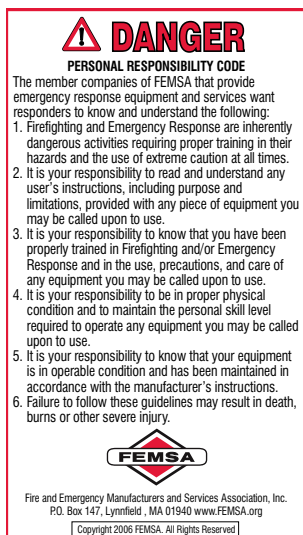

FIG. 1
8. Have you read, do you understand, and do you agree to assume the risks and responsibilities listed in the Personal Responsibility Code? See **FIG. 1** and back cover of this Guide. ☐ Yes ☐ No